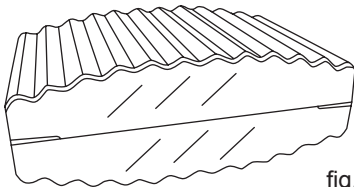

fig. 11
3. Pull out the drain spout at the bottom of the cabinet and place a bowl under it to collect defrost water (fig. 11). If the spout is frozen in place, lay a cloth which has been soaked in hot water over it for a few minutes.